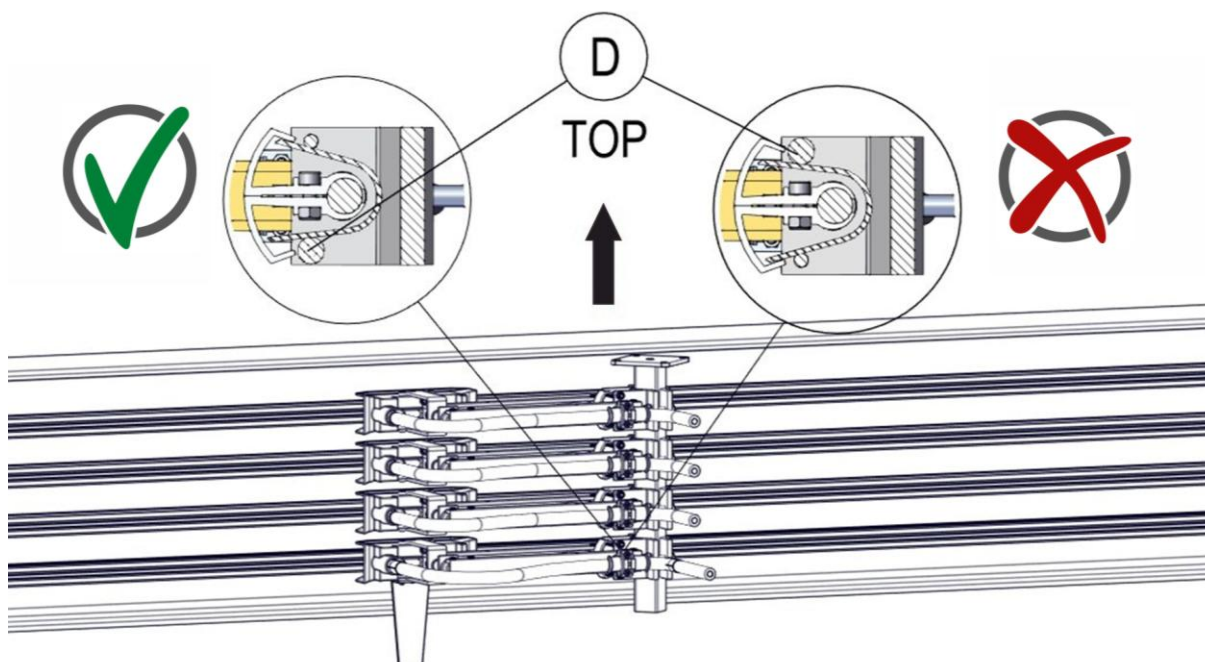

Fig. 120: Spacer (Pos. D) is seated on the bottom
For current collector insertion from the side: The spacer ensures that the current collector remains in its neutral position. (see Pos. D in Fig. 120)
- When inserted from the side, the current collector spacer is on top or has not been installed. (see Pos. D in Fig. 120)